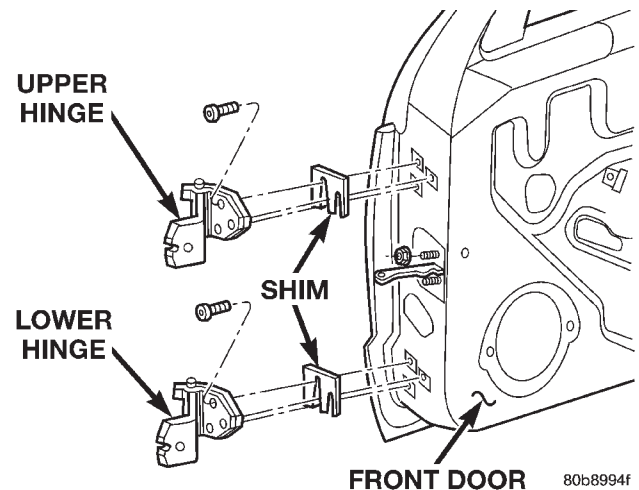

Fig. 27 Front Door Hinge
- (1) Remove door restraint (check) retaining pin.
- (2) Remove door hinge bolts and shims (Fig. 27).
- (3) Retain door hinge shims for correct installation.